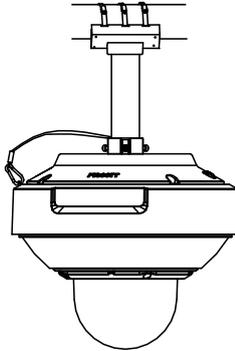

Figure 1-22 Fix the PanoVu Camera
8. Fix the PanoVu camera with the head cover by fixing screws of the head cover and bracket, as shown in Figure 1-22.